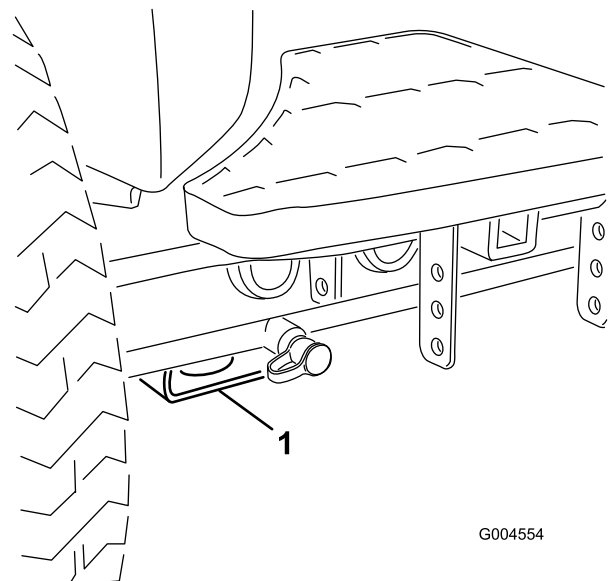

Figure 40
- Front—rectangular pad, under the axle tube, inside each front tire (Figure 40).